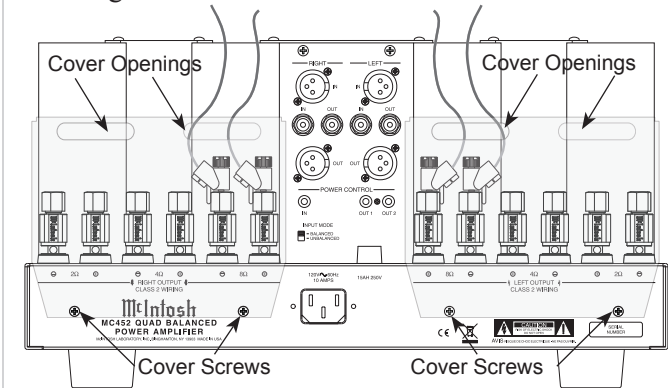

Figure 5 (Inside USA and Canada)
4. Locate the Terminal Connections Covers from the inside of the MC452 shipping carton. Insert the just prepared Loudspeaker hookup cables thru the cover openings, one cover for each channel. Refer to figure 5.
Note: The illustration in Figure 5 is connections for 8Ω (ohms) Loudspeakers.
7. Attach the Terminal Connections Covers to the MC452 Rear Panel with the previously removed Screws. Refer to figure 5.